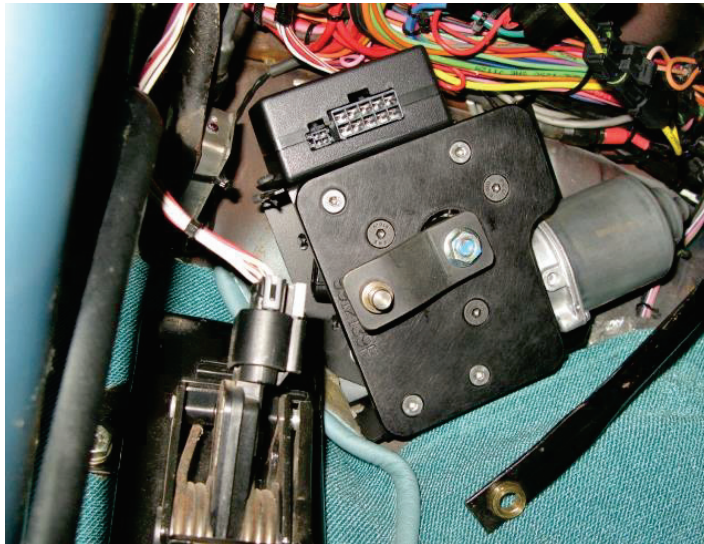

Figure 5 - Install Wiper Motor & Adapter Plate
8. Attach the wiper motor and adapter plate to the stamped mounting bracket using the 10-24 x 1/2"L allen screws you removed in step 5 (Figure 5 on the next page). **NOTE:** The pitman arm should be in the 8 o'clock position.